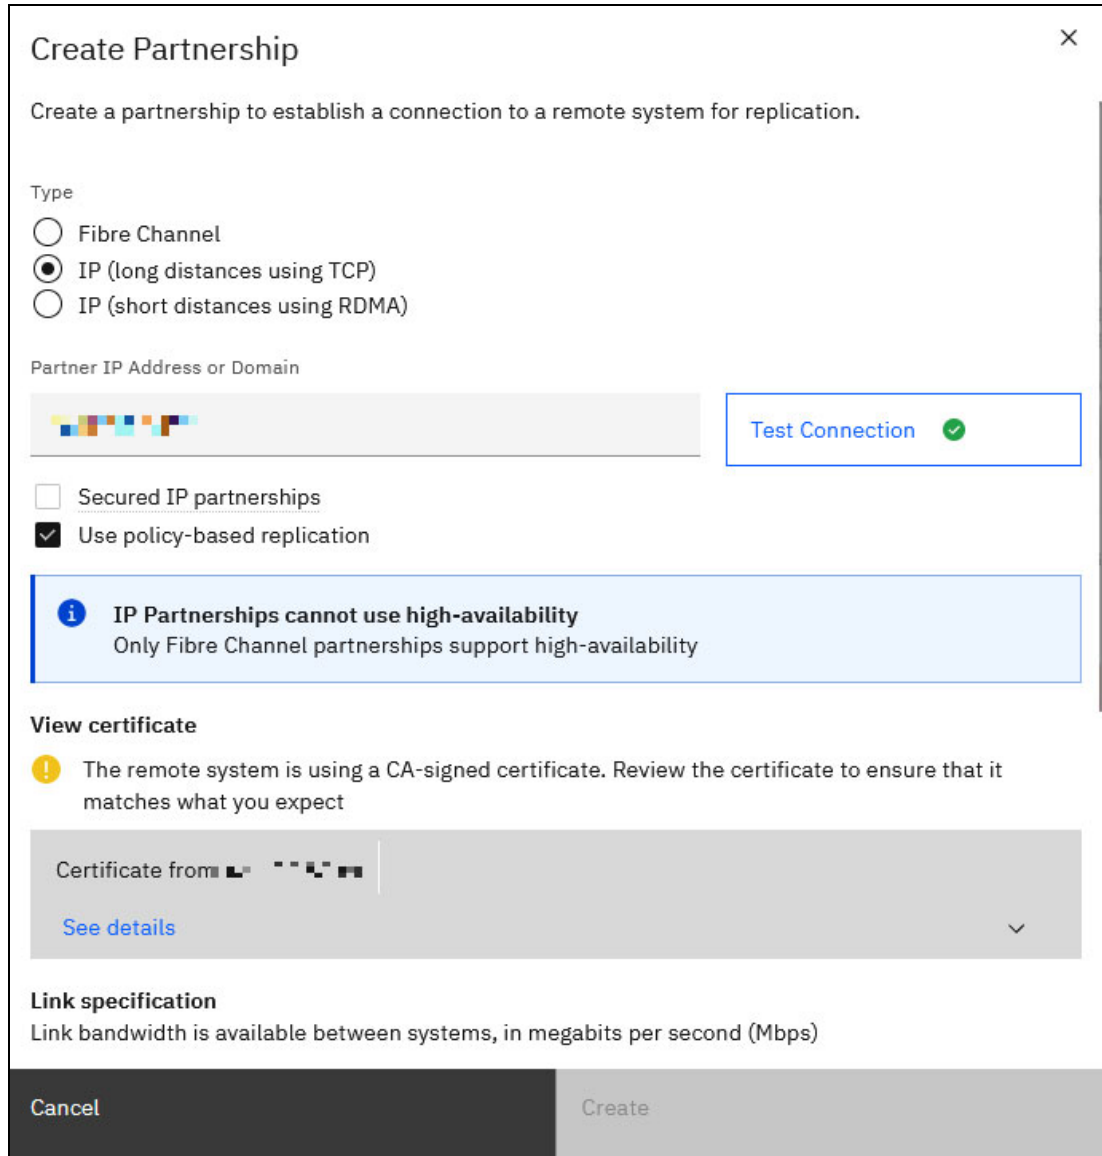

Figure 3-14 Create Partnership
1. On the primary system select **Copy Services** → **Partnerships** → **Create Partnership**. If using IP select **IP** and **enter** the **partner IP address** the select **Test Connection**. If the partner meets requirements for policy based replication the Use policy-based replication selection can be checked. Fill out the rest of the panel and select **Create**. Repeat these steps on the partner system. See Figure 3-14 on page 53.